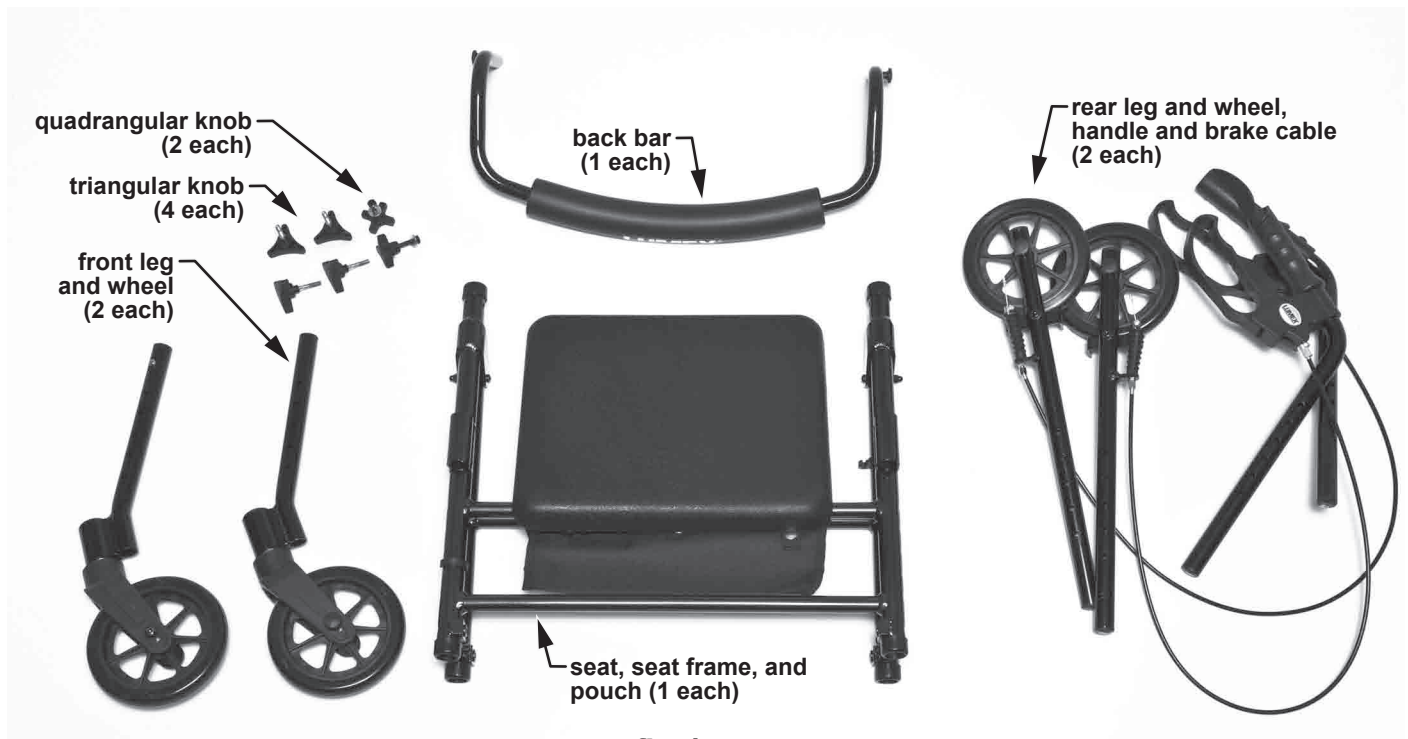

fig. 1
2. Inspect all components (shown above in fig. 1).